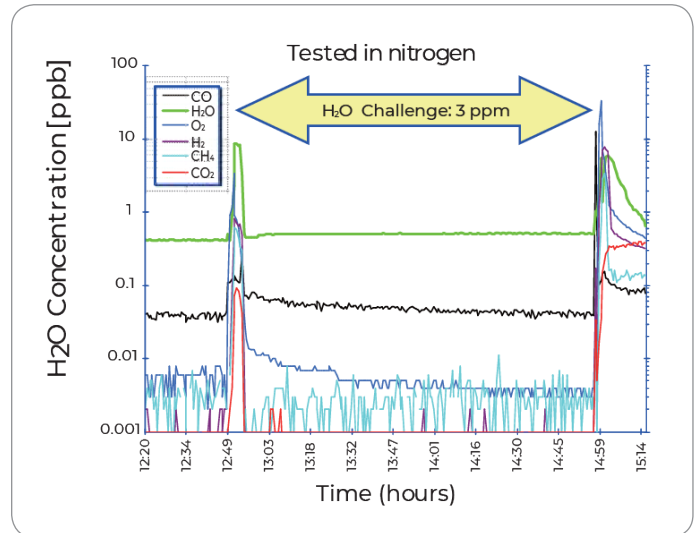

Figure 10: Gaskleen purifier results after spiking with moisture in nitrogen gas
Nitrogen (N2) and argon (Ar) are typical inert carrier gases used in the electrolyte filling process. Moisture in either the carrier gas or the electrolyte can result in the formation of hydrofluoric acid (HF) from fluoride lithium salts. Since HF can corrode certain metals, such as piping on equipment or internal battery components, it is critical to prevent moisture from coming in contact with the electrolyte. Pall gas purifiers can reduce ppm levels of moisture from inert gases to less than 1 ppb, as demonstrated in Figure 10. The large spikes are due to the initiation and stopping of the test. In addition, all Pall gas purifiers contain an integral particle removal filter for added protection. Pall offers a range of gas purifiers to handle flow rates from 1 to 1,000 slpm.